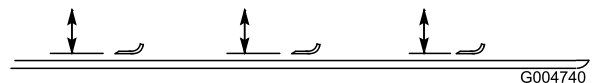

Figure 98
4. Rotate the blade until the ends face forward and backward, and measure from the inside of the mower deck to the cutting edge at the front of the blade (Figure 98).